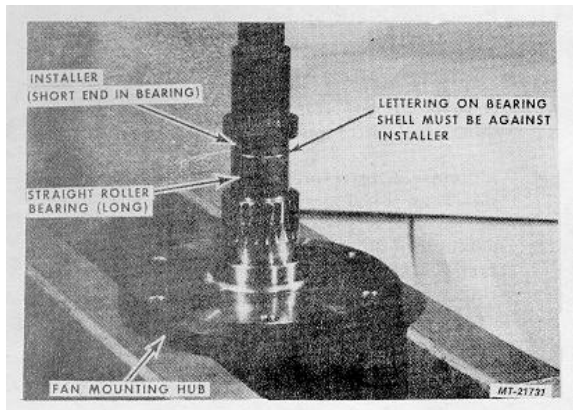

Fig. 39
2. Using Installer SE-2782-1, press Straight Roller Bearing (long) down with the short end of Installer SE-2782-1 until the tool shoulder bottoms against the end of Fan Mounting Hub, Fig. 39.